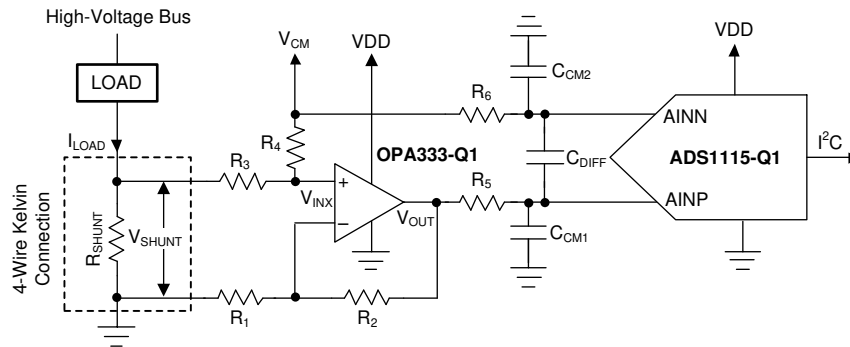

Figure 9-6. Low-Side Current Shunt Monitoring
Shunt-based, current-measurement solutions are widely used to monitor load currents. Low-side, current-shunt measurements are independent of the bus voltage because the shunt common-mode voltage is near ground. Figure 9-6 shows an example circuit for a bidirectional, low-side, current-shunt measurement system. The load current is determined by measuring the voltage across the shunt resistor that is amplified and level-shifted by a low-drift operational amplifier, OPA333-Q1. The OPA333-Q1 output voltage is digitized with ADS1115-Q1 and sent to the microcontroller using the I²C interface. This circuit is capable of measuring bidirectional currents flowing through the shunt resistor with great accuracy and precision.
1. To level-shift the ground-referenced signal to allow bidirectional current measurements while running off a unipolar supply. The voltage across the shunt resistor, V_{SHUNT} , is level-shifted by a common-mode voltage, V_{CM} , as shown in Figure 9-6. The level-shifted voltage, V_{INX} , at the noninverting input is given by Equation 5.
A shunt resistor (R_{SHUNT}) is an accurate resistance inserted in series with the load as shown in Figure 9-6. If the absolute voltage drop across the shunt, $|V_{SHUNT}|$, is a larger percentage of the bus voltage, the voltage drop can reduce the overall efficiency and system performance. If $|V_{SHUNT}|$ is too low, measuring the small voltage drop requires careful design attention and proper selection of the ADC, operation amplifier, and precision resistors. Make sure that the absolute voltage at the shunt terminals does not result in violation of the input common-mode voltage range requirements of the operational amplifier. The power dissipation on the shunt resistor increases the temperature because of the current flowing through the resistor. To minimize the measurement errors resulting from variation in temperature, select a low-drift shunt resistor. To minimize the measurement gain error, select a shunt resistor with low tolerance value. To remove the errors caused by stray ground resistance, use a four-wire Kelvin-connected shunt resistor, as shown in Figure 9-6.